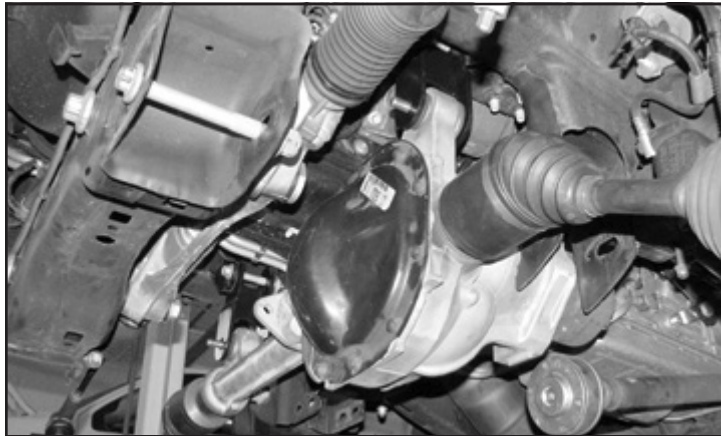

FIGURE 22 - STEP 23
23. Locate the factory front differential and install into the Fabtech upper differential mounts using two 1/2"-13 x 4" hex cap bolts, washers and lock nuts. Leave all hardware loose in preparation of the installation of the remaining differential mounts. **SEE FIGURE 22**